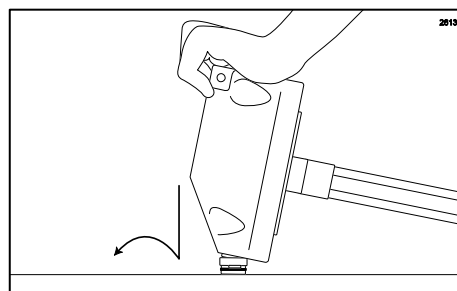

Figure 111
3. Set the Adapter on a flat, clean surface, and then place the freezer door spout upright onto the Adapter. Rock the freezer door forward to snap the Adapter into place. (See Figure 111.)